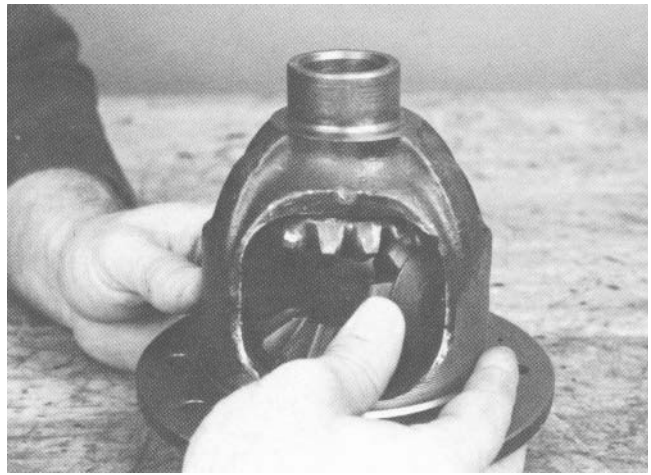

Figure 34
13. Place the differential case in a vise as shown (Fig. 34). Apply grease to new side gear thrust washers and hubs of the side gears. Apply grease to new pinion mate spherical washers and pinion mate gears. Place the side gears and thrust washers in the case. Install the pinion gears while holding the side gears in place.